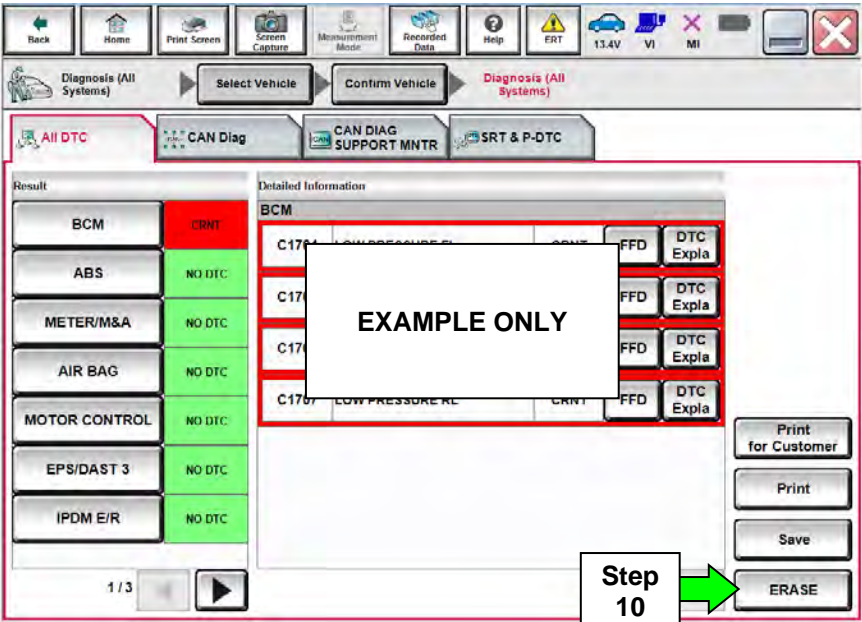

Figure 4
- Figure 4 is an example of possible DTCs.